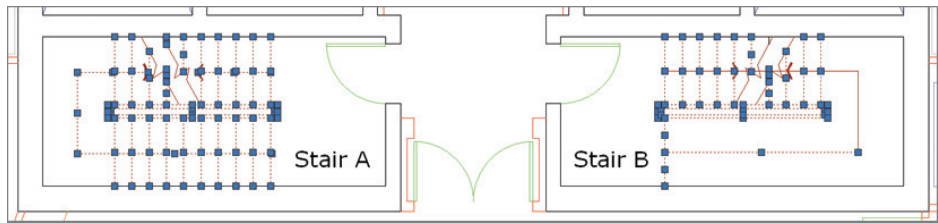

FIGURE 4.9 Selecting similar objects en masse
13. Select one of the vertical tread lines in Stair A by clicking on it. Right-click, and choose Select Similar from the context menu that appears. All lines on the same layer are selected; you might have to zoom out to see both stairs (see Figure 4.9). Other object types on the same layer remain unselected because they were not similar enough. Press Esc.